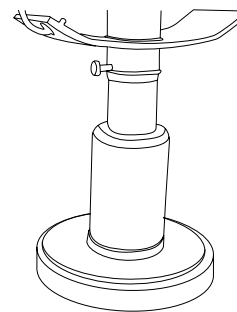

Figure 16
4. Confirm the bearing is sitting against the lip on the opposite side of the nose roller [Figure 16].